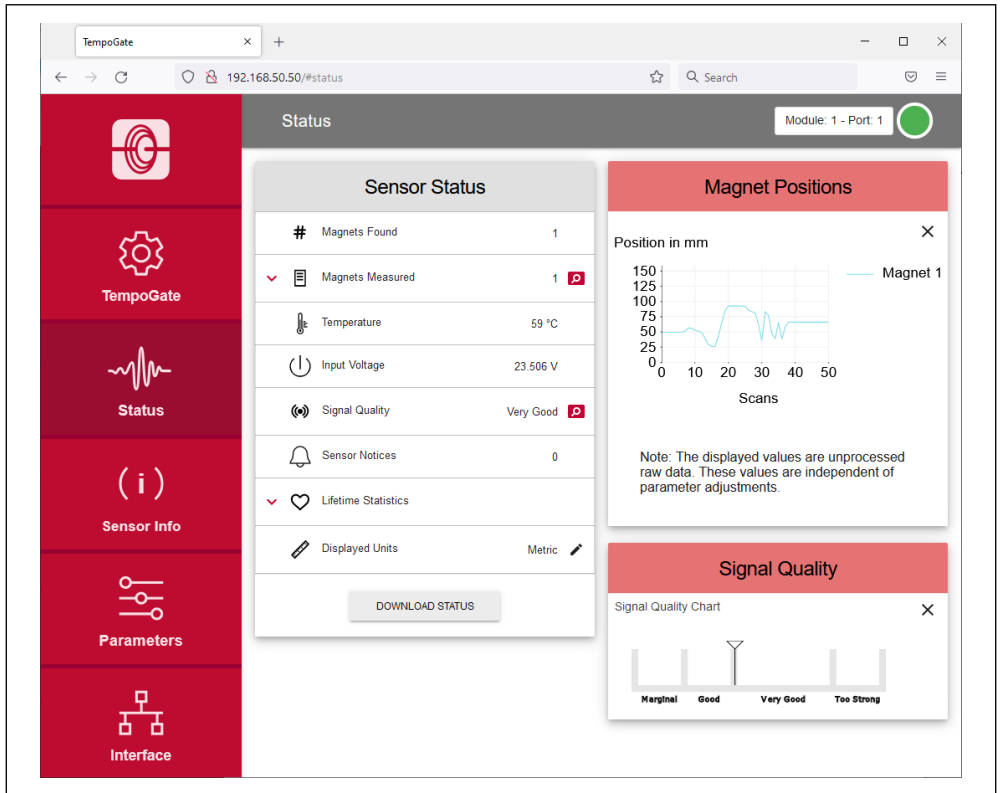

Fig. 35: Sensor status
The status menu includes current information about the sensor (Fig. 35):
- **Magnets Measured:** Number of set magnets. By clicking on the red arrow on the left the current position of the magnet is displayed. The magnifying glass on the right of the magnet provides a graphical display of the magnet's position (Fig. 35). Note, that the output of the position values for the graphical display is slower than the output of the position values to the controller.
The magnifying glass on the right of the magnet provides a graphical display of the signal quality (Fig. 35).